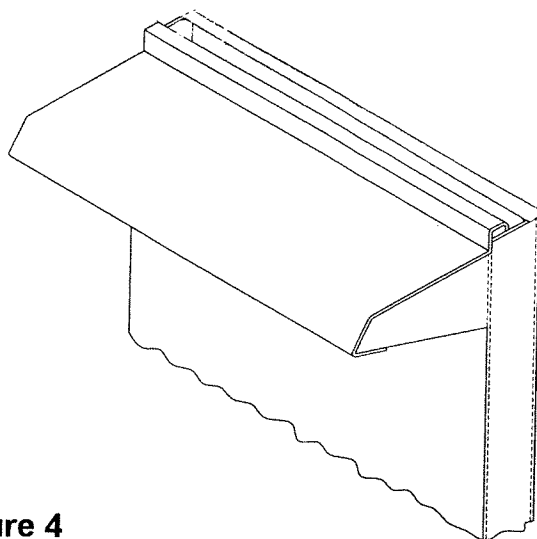

Figure 4
Step 4. Hang shelf over riser flange (Figure 4)